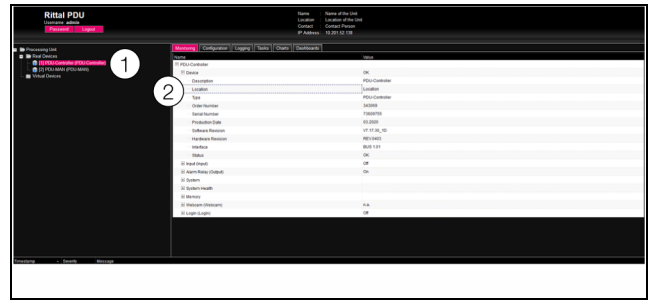

Fig. 27: Select an individual parameter
- One after the other, open the "CMC III PU 19" Edition" and "Device" entries by clicking on the "plus" symbol in front of the entry (fig. 27, item 1).
- Position the mouse pointer at the end of the first column in the "Location" line (fig. 27, item 2).